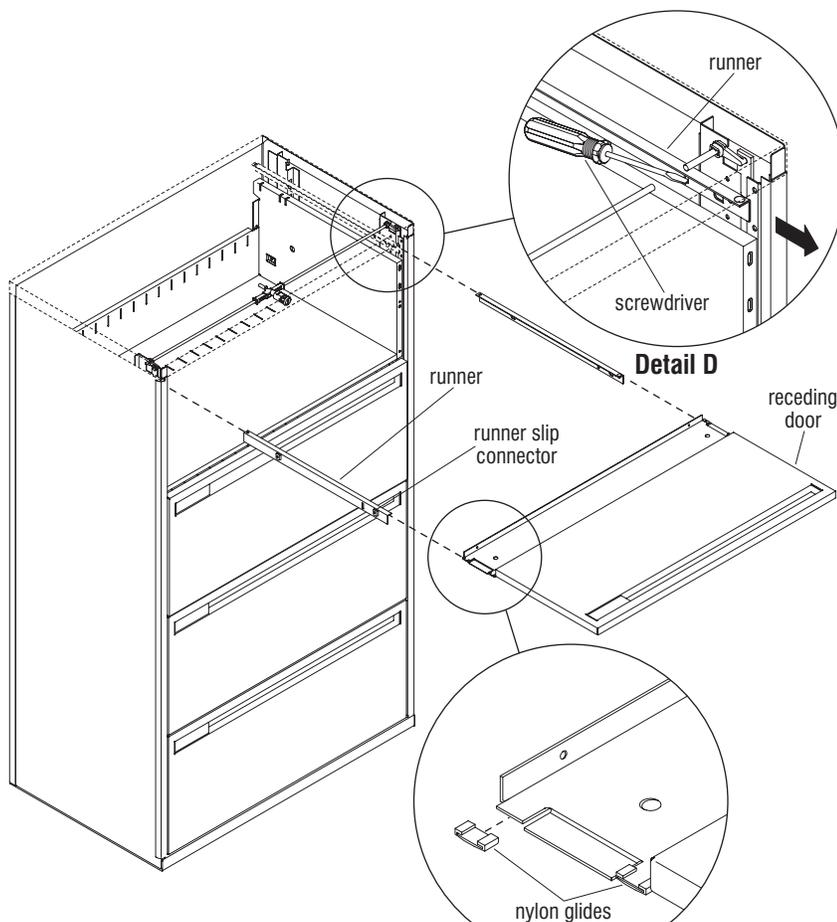

Figure 5
5. The receding door may now be removed by pulling it directly out of the unit. Two nylon glides (Detail C) are installed to the rear at each side of the receding door and contain white lithium grease for lubrication. Nylon glides may be removed for replacement by tapping them outward with a flat blade screwdriver and a hammer. New nylon glides may be tapped on and re-greased for smooth operation. Carefully set unit aside. (Figure 5 & Detail C).
6. To **remove each receding door runner**, use of a hammer and flat-blade screwdriver is recommended. Insert the blade of the screwdriver into the vertical slot in the runner as illustrated, then tap the screwdriver blade toward the front of the cabinet to release the runner from the cabinet (Figure 5 & Detail D).
7. To **install receding door runner**, align the tabs on the front and back of the runner with the corresponding set of square holes in the cabinet internal uprights. Use a hammer and flat blade screw driver to tap the runner back, snapping it secure in place on the slip connections (Figure 5).